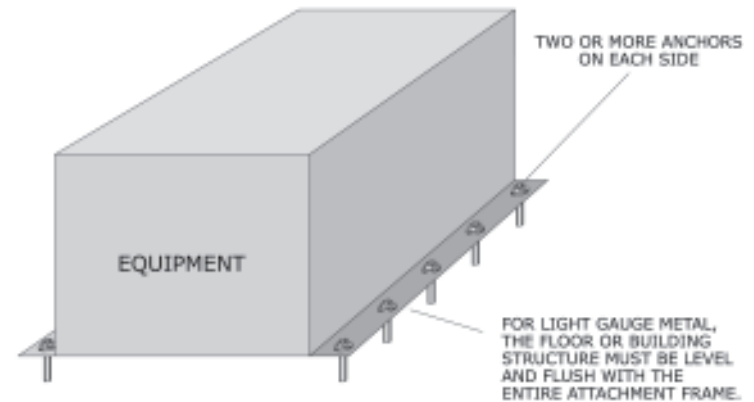
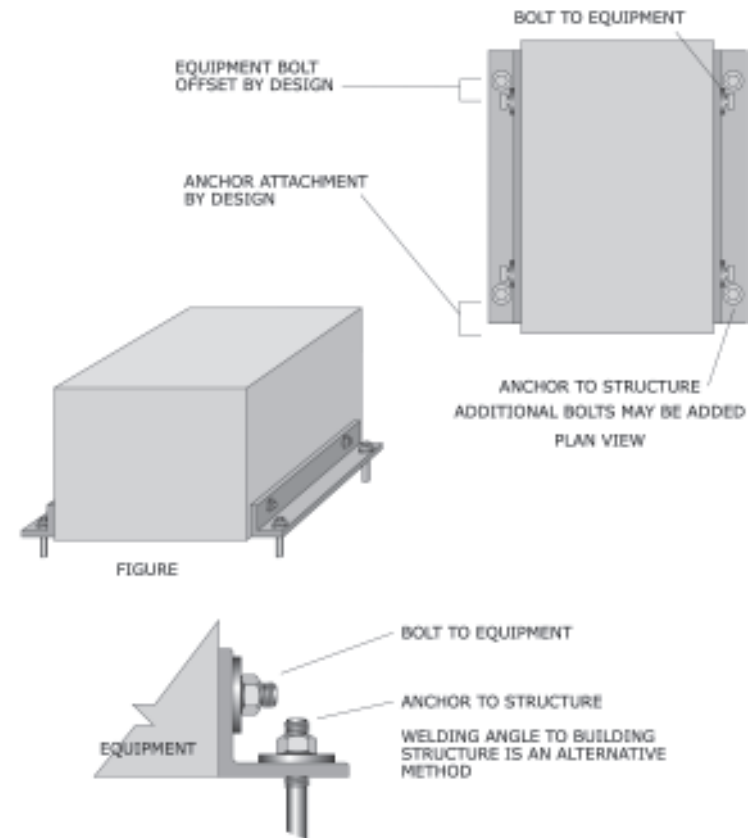

Figure 68: Direct attachment of equipment with sheet steel housing to a building.
Figure 72: Two angles used to attach the equipment to the building.
**Do not add shims under equipment with sheet steel housings as shown in Figure 68 above. If the concrete floor/pad is irregular, reinforce housing with angles as shown in Figure 72 (page 37).**
- Full-size angles on each side of equipment: Figure 72 (page 37).